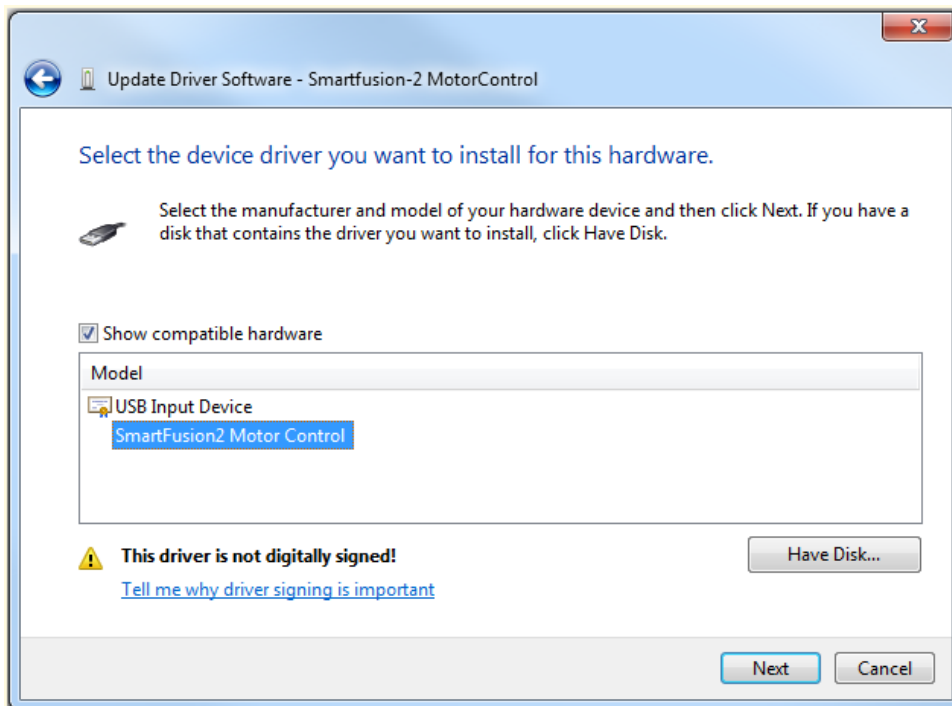

Figure 10 • Selecting the Device Driver
10. Click **SmartFusion2 Motor Control** and click **Have Disk** as shown in Figure 10.